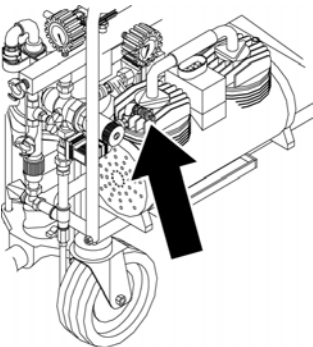

Fig. 69: Safety valve (1)
- Check to ensure that the safety valve (Fig. 69/arrow) opens at 4.0 bar (58 psi) against a completely closed air line.